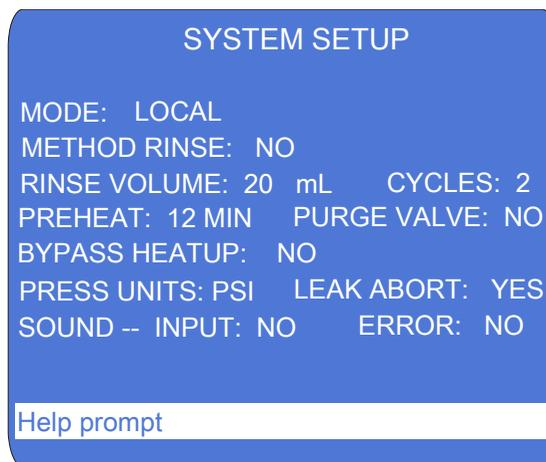

Figure B-13. System Setup Screen
4. Press the **Menu** button on the control panel keypad to display the **MAIN MENU OF SCREENS** and press **5** to display the **SYSTEM SETUP** screen (see Figure B-13).